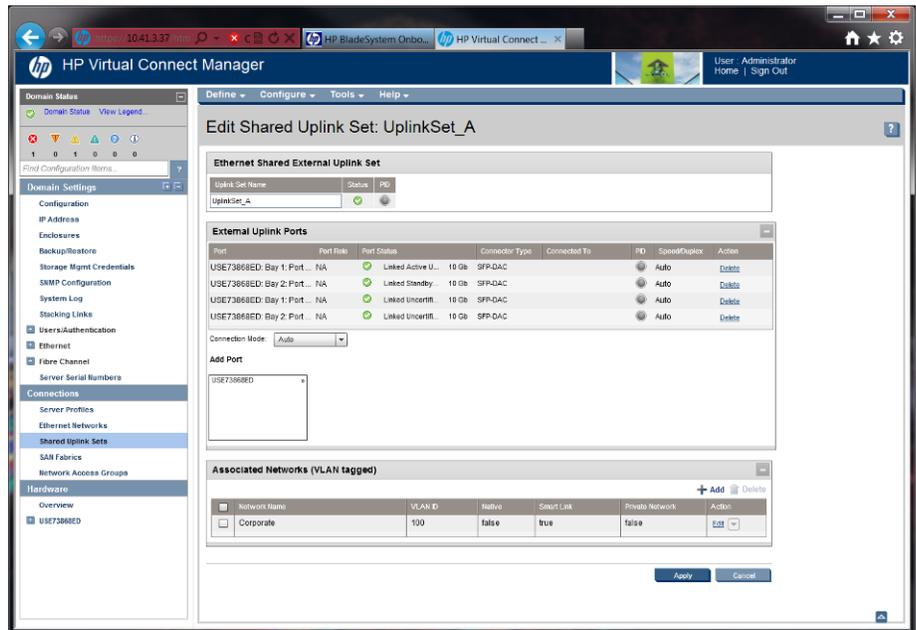

Figure 13: Editing a Shared Uplink Set.
- Click Edit for the Shared Uplink Set to which you wish to add the iSCSI network. (See Figure 13.)